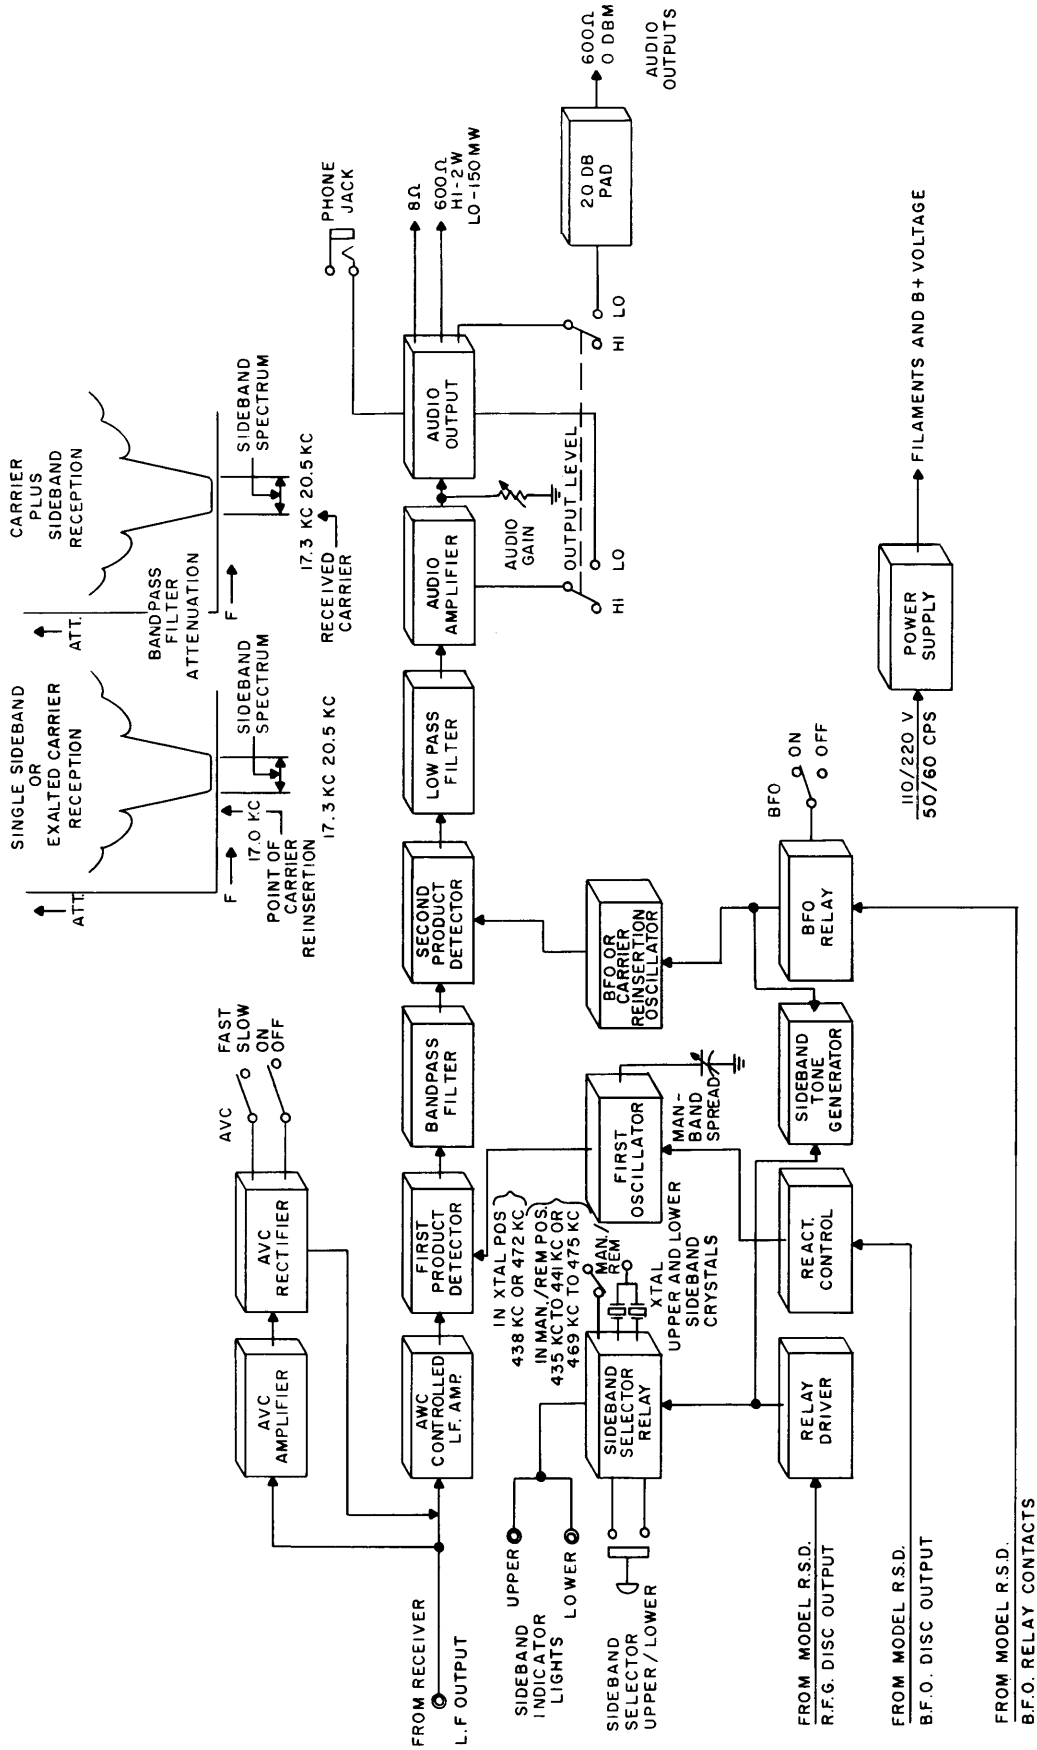
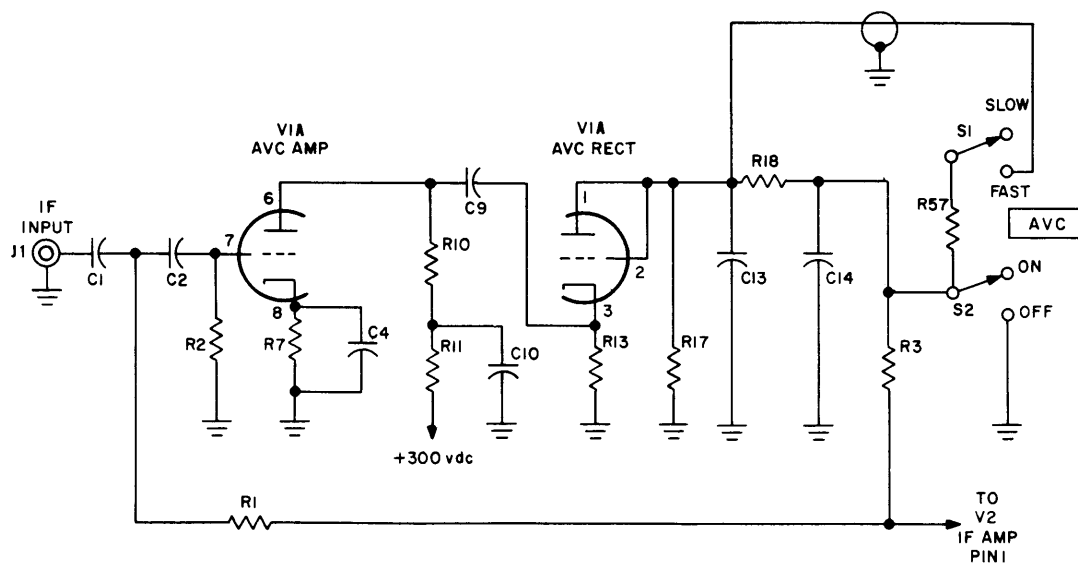

Figure 4-3. Block Diagram Model MSR
Figure 4-4. AVC Network, Simplified Schematic Diagram
The block diagram, shown in figure 4-3, presents a simplified outline of the functions of the MSR unit. Detailed circuitry descriptions of the unit are also provided, supported by simplified schematic diagrams. (Figures 4-4 through 4-11.)
a. **AVC NETWORK (Figure 4-4).** - The AVC Amplifier V1a and AVC Rectifier V1b provide two kinds of control of the IF Amplifier V2. With the AVC toggle switch S1 in the FAST position, a fast time constant is employed to control signals which have an ever present component, i.e. AM, MCW, FS. When the AVC toggle switch S1 is in the SLOW position, a slow time constant will hold the IF Amplifier gain steady for a longer period for SSB and
a. Simplified schematic diagrams (Figures 4-4 through 4-12).